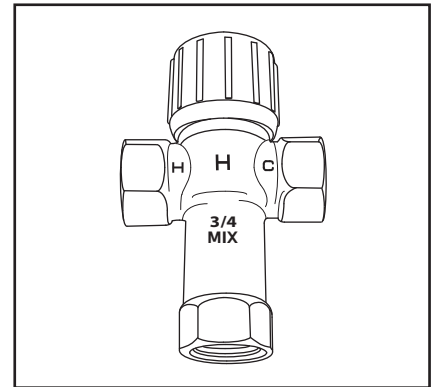

Figure 7 - Thermostatic Mixing Valves installed at each point-of-use can help prevent scalding.
- Point-of-use Thermostatic Mixing Valves (see Figure 7 on page 8).
Install Thermostatic Mixing Valves (Figure 7) to regulate the temperature of the water supplied to each point-of-use (for example, kitchen sink, bathroom sink, bath, shower). Consult the valve manufacturer's instructions or a qualified person.
▲ WARNING! Even if the water heater thermostat is set to a relatively low temperature, hot water can scald. Install Thermostatic Mixing Valves at each point-of-use to reduce the risk of scalding (see page 4 and Figure 7).